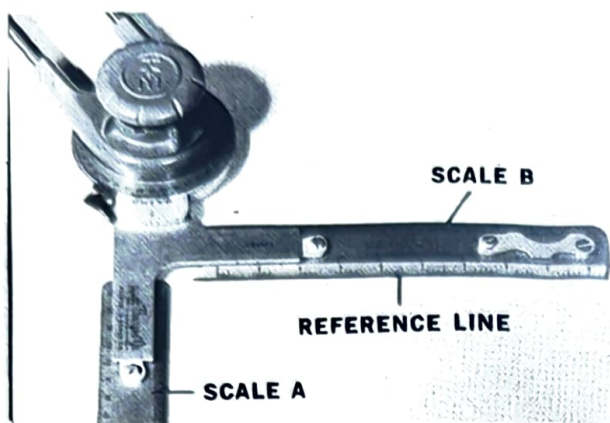

FIG. 5
5. Rotate the protractor head 90° clockwise using the automatic stop. See Fig. 5.